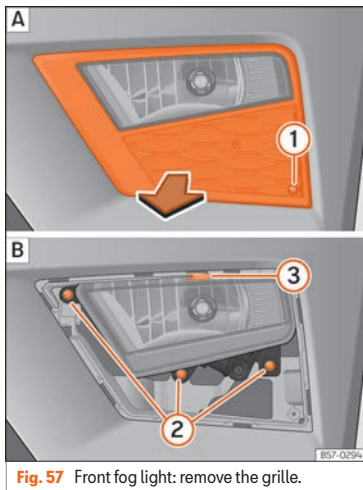
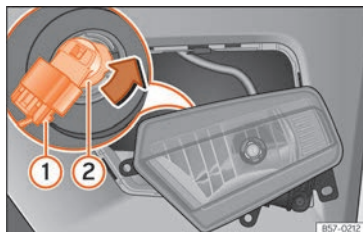

Fig. 57 Front fog light: remove the grille.
Fig. 58 Front fog light: remove the bulb holder
- Remove the screw »» **Fig. 57** ① **A** from the fog light grille using a screwdriver and extract the grille.
- Remove the 3 screws »» **Fig. 57** ② **B**.
- Remove the metal clip situated on the upper part of the fog light by pulling away from the vehicle ③ **B** and extract the fog light.
- Remove connector »» **Fig. 58** ① from the bulb.
- Turn the bulb holder »» **Fig. 58** ② anticlockwise and pull.